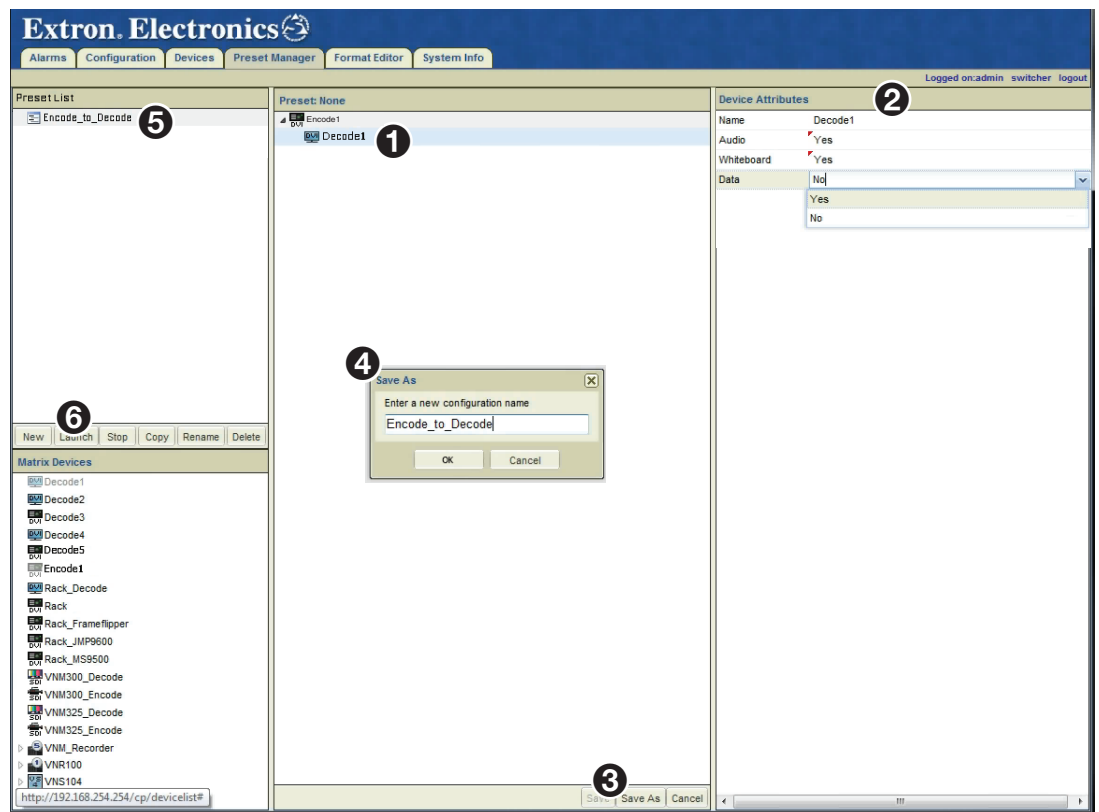

Figure 105. Save a Preset
1. Click on the decoder device in the **Preset** panel (see figure 105, **1**) to populate the device attributes (**2**).